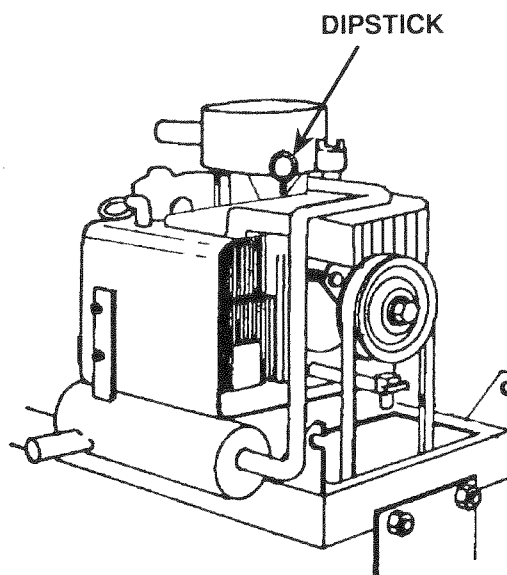

FIGURE 17
4. Check Engine oil level before each operation. Refer to Kohler Owner's Manual for proper procedures (Fig. 17).